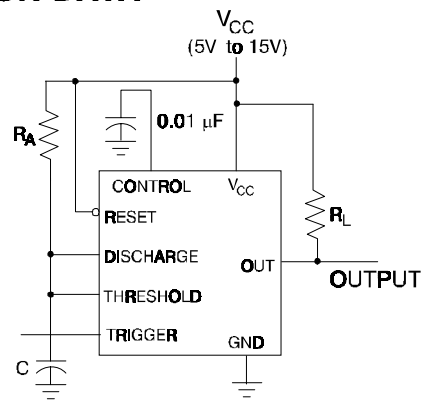

Fig. 2 Circuit for monostable operation
4. Values specified are for a device in a monostable circuit similar to Fig. 2, with component values as follow: $R_A=2\text{K}\Omega$ to $100\text{ K}\Omega$, $C=0.1\mu\text{F}$.